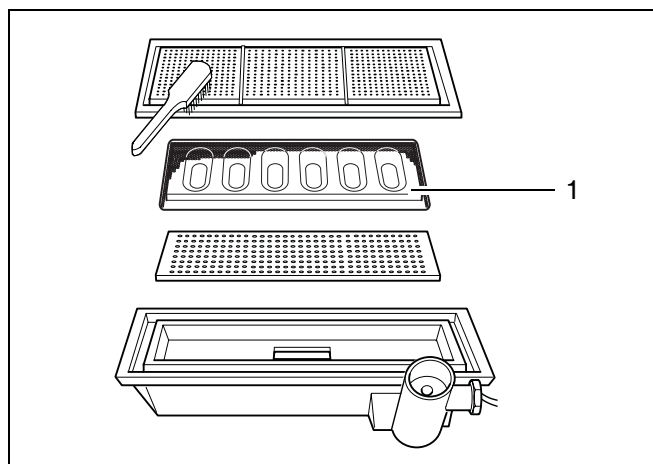

fig. 49 Cleaning the burner
- Clean the burner with a **soft** brush and compressed air (fig. 49).
The perforated plate (fig. 49, item 1) is only provided on type 800 – 24 and 800 – 24T25 models.